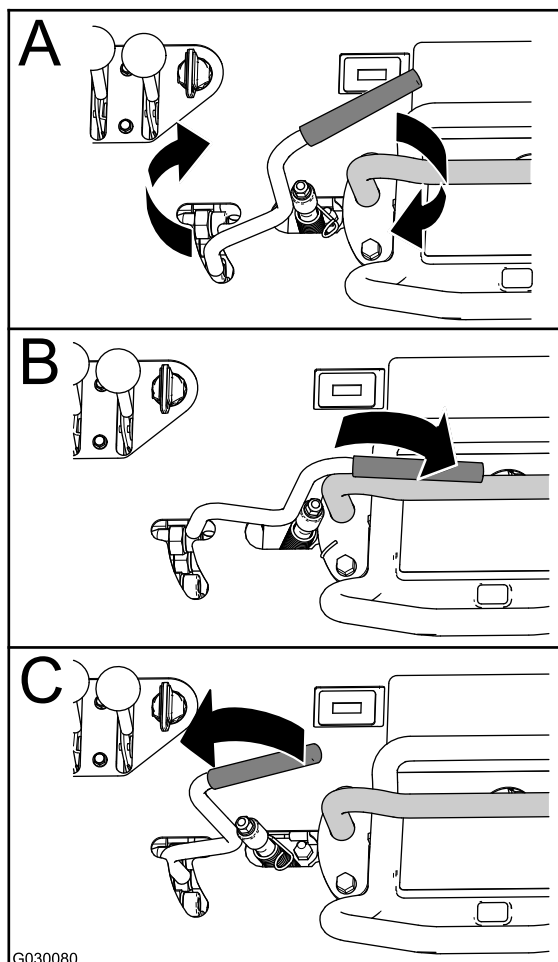

Figure 1
4. Rotate the trencher control clockwise (A of Figure 1).
5. Move the trencher-control lever fully to the forward position (B of Figure 1) and backward position (C of Figure 1) 4 or 5 times.